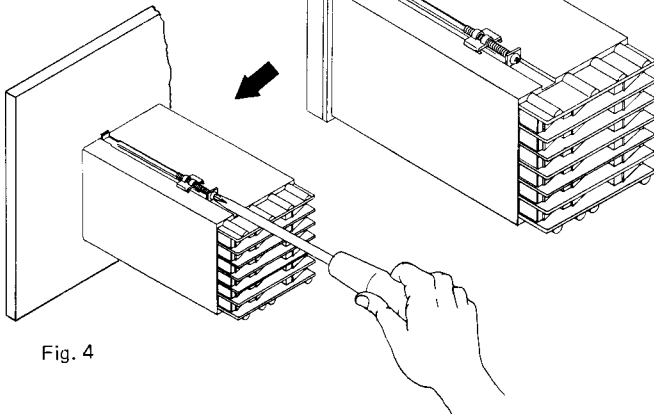

Fig. 4
- Tighten a bracket set screw with a phillips screwdriver from the back. Do not overtighten the set screw. (Fig. 4)